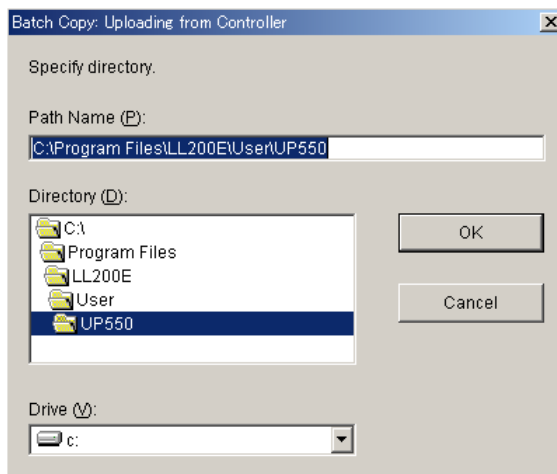

Figure 12.4.1 Batch Copy: Uploading from Controller Dialog Box
- (1) On the menu bar, click **Communication**, choose **Batch Copy**, and then **Upload at a time**.
- (2) In the Batch Copy: Uploading from Controller dialog box (Figure 12.4.1) that subsequently opens, specify the directory where you wish to save the uploaded data.